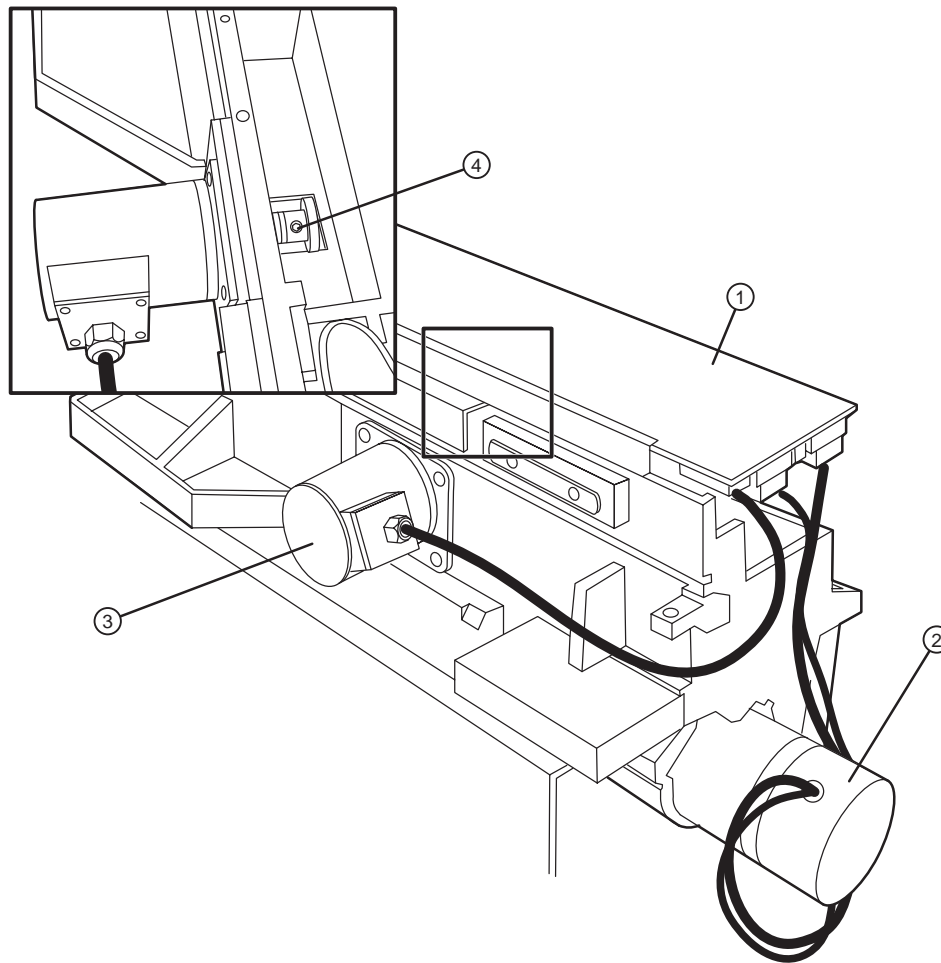

Figure 4-29 Carriage assembly.
4. Remove the two (2) power cable connectors going to the brushes on the inner shrouds.
5. Loosen the four (4) screws securing the left inner shroud to the carriage. Remove the shroud.
6. Loosen the four (4) screws securing the right inner shroud to the carriage. Remove the shroud.
7. Gently push the carriage assembly onto the carriage transfer tool. Refer to Figure 4-29.